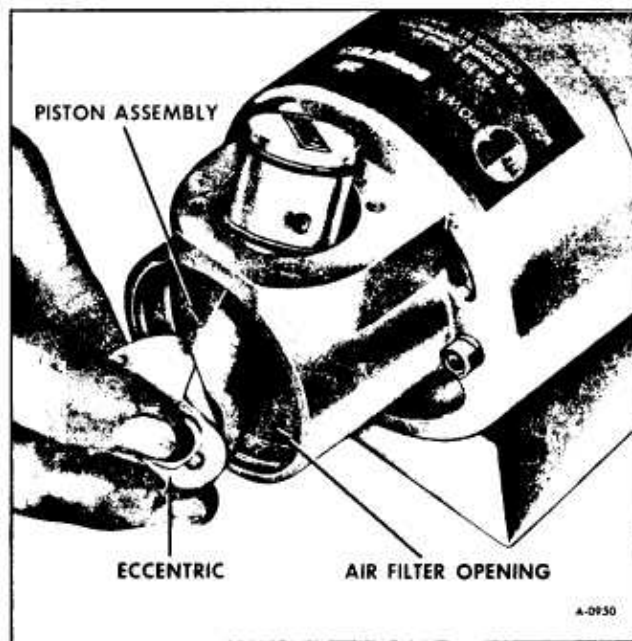

Figure 28—Removing Compressor Piston
5. Rotate eccentric (figure 28) until piston is at the bottom of its stroke.
7. Remove eccentric from motor output shaft, and remove piston assembly through air filter opening as shown in Figure 28.